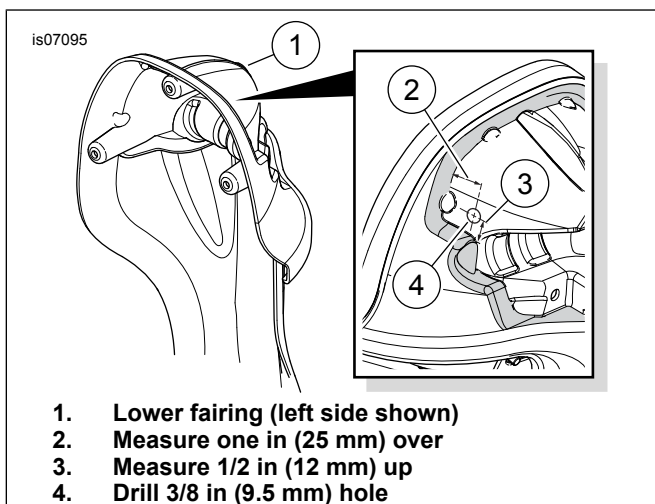

Figure 4. Drill Speaker Wire Hole in Lower Fairing
- Remove the glove box, door and tether (F) from the lower fairing (E) per the disassembly instructions in the service manual. Keep the screws (J).
- Remove the vent door (H) from the glove box, making note of the order and orientation of the attaching parts.
- Install the vent door onto the **new** speaker housing (4) from **this** kit with the attaching parts in the same order and orientation as just removed. Tighten the locknut (I) per service manual instructions.
- Secure the speaker housing to the lower fairing with the three screws (J) removed in Step 1a. Tighten the screws to 2.3–2.8 N·m (20–25 in-lbs).
- See Figure 4. In the upper part of the fairing (1), measure about 25 mm (1.0 in) over (2) and 12 mm (0.5 in) up (3) from the lower fairing cap mating flange (shaded area), and drill a 9.5 mm (3/8 in) hole (4) in the glove box inboard side wall and speaker housing. See Figure 10. Install a grommet (8) into the hole in the glove box wall.
- From the inside, route the terminated wires of a fairing lower speaker harness (6) through the large opening in the face of the speaker housing, and through the grommet in the glove box wall.